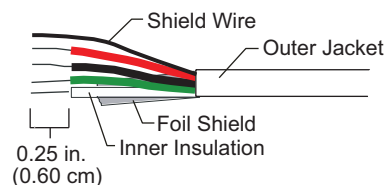

Fig. 6 — Wiring the Wireless Adapter to Controller
2. Partially cut, then bend and pull off the outer jacket of the Rnet cable(s). Do not nick the inner insulation. See Fig. 6.